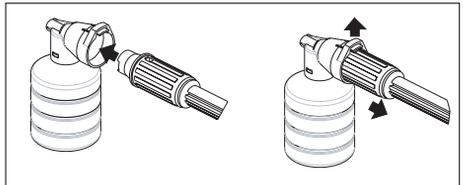

Figure 12 – Turn lance to obtain wide fan pattern.
5. For detergent applicators that fit on end of lance, turn lance to obtain wide fan pattern. **(Detergent suction will not work when lance is adjusted to provide a narrow pattern.)** Connect applicator to end of lance. Make sure connection is secured correctly. (See figure 12.)